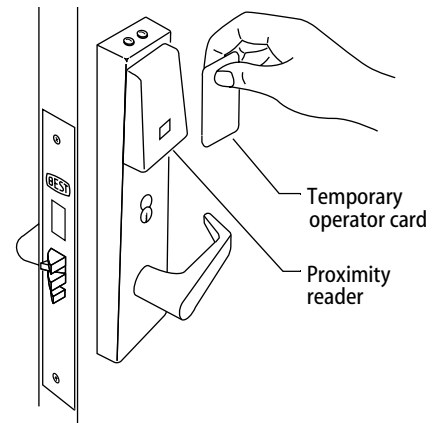

Figure 20
- 1 Place the temporary operator card in front of the proximity reader as shown in Figure 20.